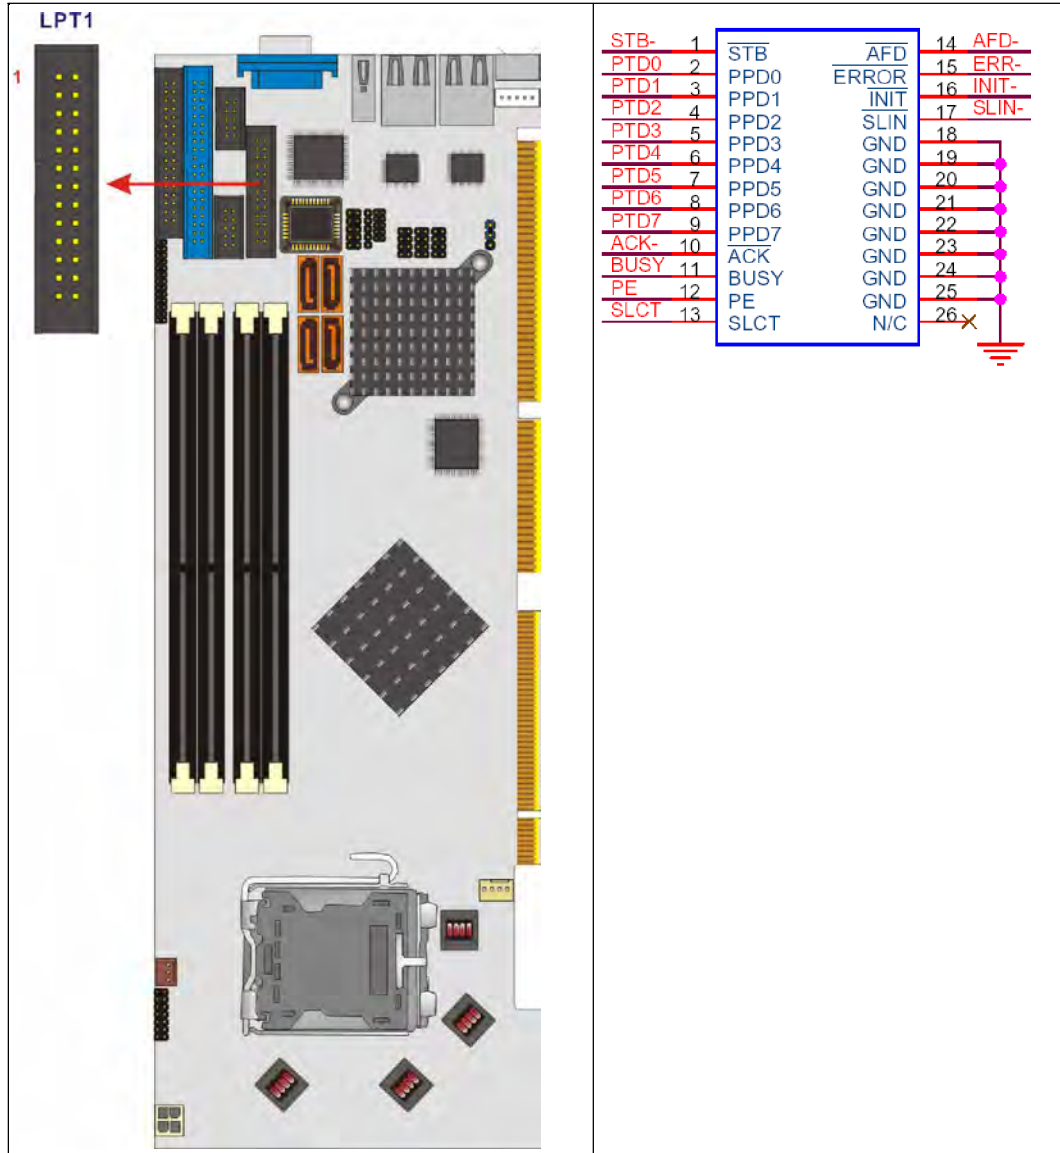

Figure 3-13: Parallel Port Connector Location
**CN Location:** See **Figure 3-13**